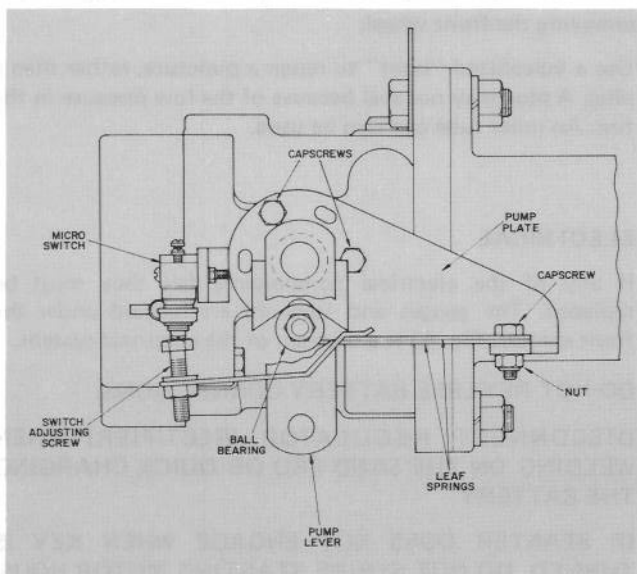

Figure 38
2. Start engine, move throttle to SLOW and check rear wheel that is off shop floor; it must not be rotating. If wheel is rotating forward, loosen capscrews and lightly tap bottom of pump plate counterclockwise (Fig. 38). By contrast, tap pump plate clockwise if wheel is rotating backward (Fig. 38). When wheel stops rotating, tighten capscrews holding pump plate against side of pump. Verify the adjustment with throttle in SLOW and FAST position.
- A. Ball bearing is loose or worn out (Fig. 38).
- F. Weak or damaged leaf springs (Fig. 38). Replace.
2. Actuate the pump lever (Fig. 38) to assure all parts are operating freely and seated properly.
3. Rotate switch adjusting screw (Fig. 38) until there is a gap between head of screw and switch button.